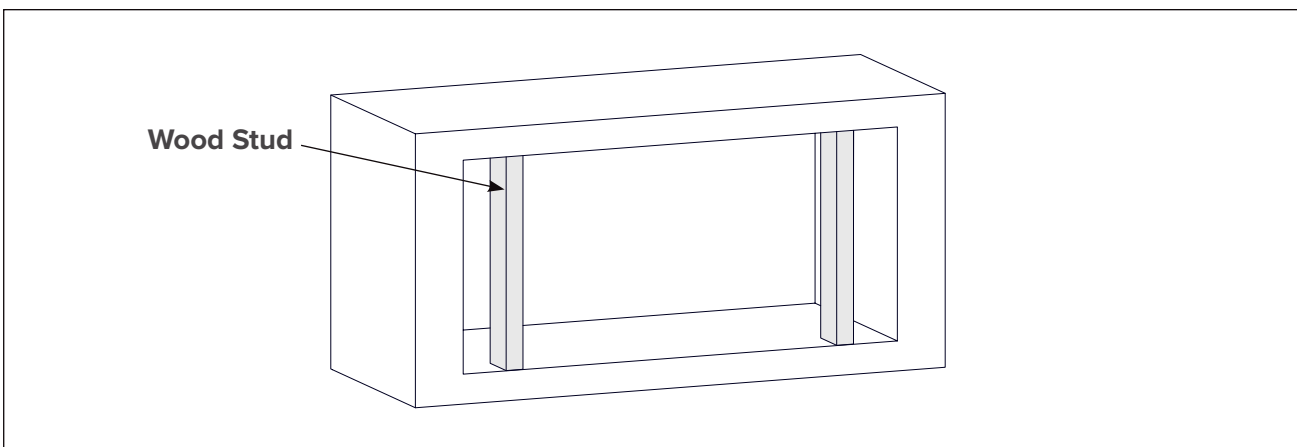

Fig. 3
- d. If the mounting tabs cannot be fastened directly to the existing fireplace frame, use wood studs where possible to bridge the gap between the insert and the surrounding structure. Ensure any additional support members are rigid and securely anchored to the fireplace body (**Fig. 3**).